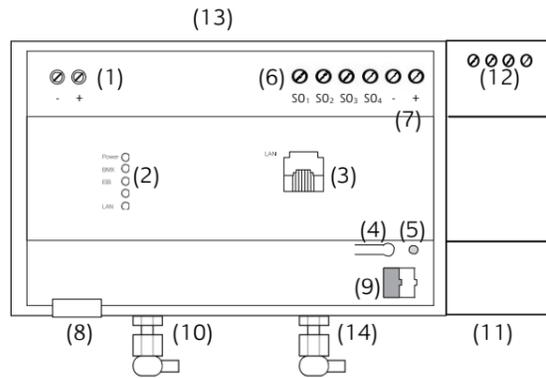

Figure 1: Device overview
Connect device (figure 1)
- For KNX: Connect bus line to bus terminal (figure 1, 9)
- For Powernet: Connect Wire to Powernet Terminal (figure 1, 12)
- For EnOcean: Connect antenna to antenna terminal (figure 1, 10)
- Connect power supply to the screw terminals (figure 1, 1) according to markings. Please consider polarity. The unchoked output of a KNX/EIB power supply can be used as power supply (consider the Power consumption).
- Insert network connector (LAN) in RJ45 socket (figure 1, 3).